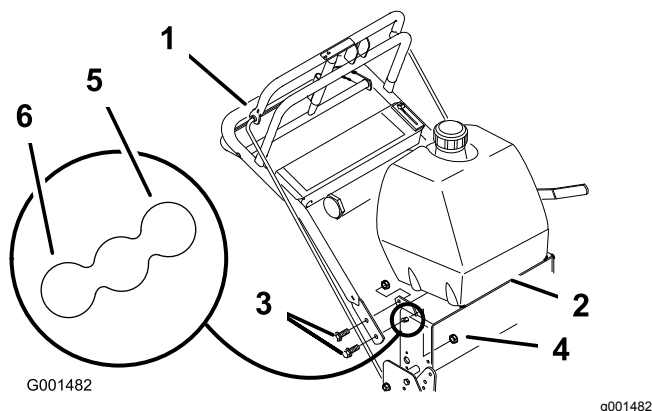

Figure 20
2. Loosen the upper flange bolts (3/8 x 1 inch) and flange nut (3/8 inch) securing the handle to the rear frame (Figure 20).
3. Remove the lower flange bolts (3/8 x 1 inch) and flange nuts (3/8 inch) securing handle to rear frame (Figure 20).